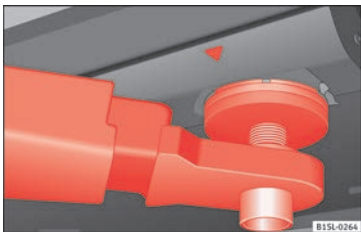
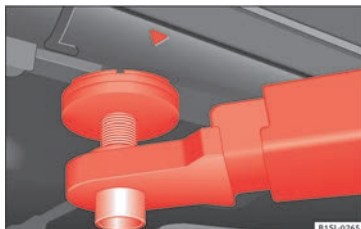

Fig. 233 Front jacking points for raising vehicle with lifting platform or jack
Fig. 234 Rear jacking points for raising vehicle with lifting platform or jack
Always use the jacking points indicated in the figures » **Fig. 233** and » **Fig. 234** when raising the vehicle. If the vehicle is not lifted at these points, it could be seriously damaged » **!** or lead to serious injury » **!**.
- Only use the jacking points indicated in the figures » **Fig. 233** and » **Fig. 234** when raising the vehicle. If the vehicle is not lifted at the indicated points, it may fall from the platform while the engine or gearbox is being dismantled, for example.